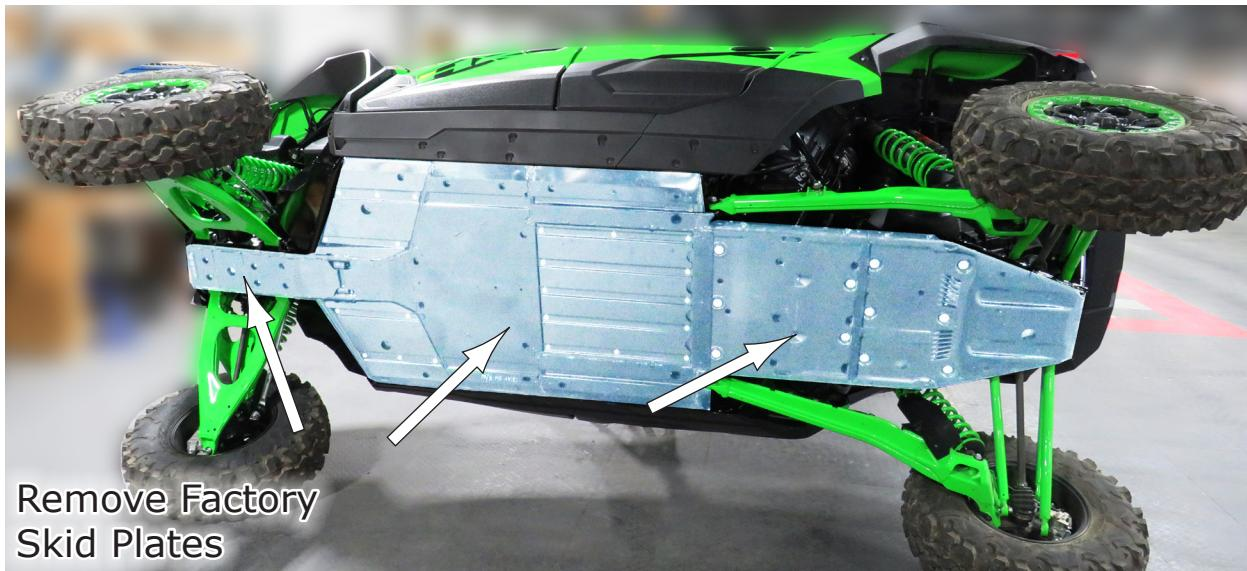

Fig.1
1. The first thing you need to do is **Remove the Factory Skid Plates** from the machine, as shown in **Fig.1** and place aside as you will not be reusing them.